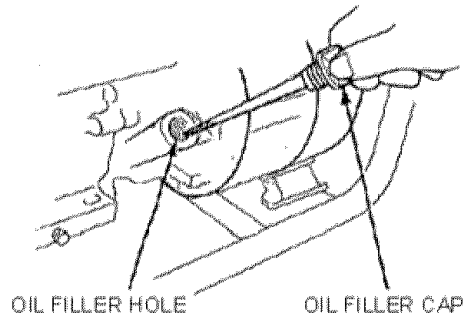

Figure 12- Checking the oil
Long or thin cords can drain the power provided to an electrical device by the generator. When using such cords, allow for a slightly higher rated wattage requirement by the electrical device. See Figure 12 for recommended cords based on the power requirement of the electrical device.
2. Unscrew the oil filler/dipstick cap (see figure 12).